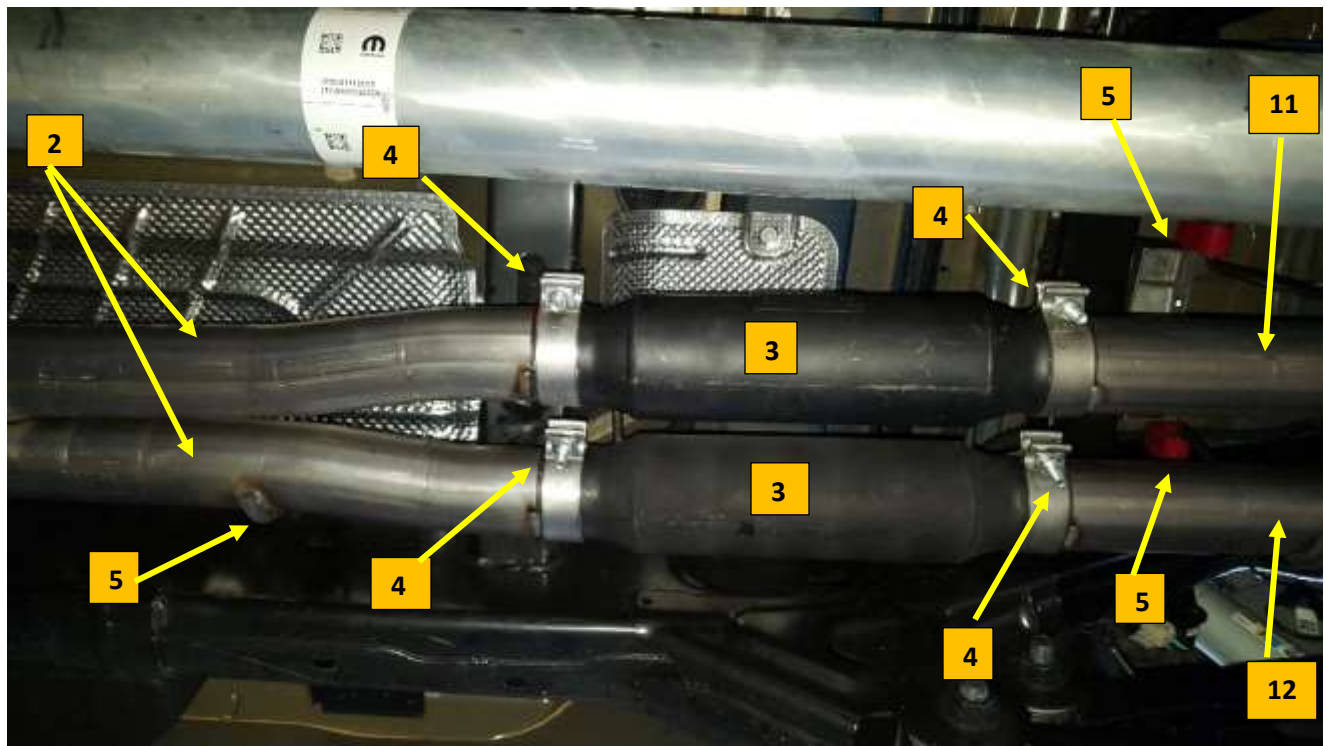

Figure 9
9. Install the red rubber isolator (5) on to the frame hanger and scavenger pipe hanger rod. **Fig. 9**
10. Install a 3" band clamp (4) on to each of the scavenger pipe outlets (2) with the bolts on the driver's side and nuts facing down. **Fig.9**
11. Install a Flowmaster Outlaw muffler with the end marked "INLET" on each of the scavenger pipes (2). Tighten the clamps to firmly hold the mufflers.
12. Install a 3" band clamp (4) on to each of the Flowmaster Outlaw mufflers outlets with the bolts on the driver's side and bolts facing down. **Fig.9**
13. Install the red rubber isolators (5) on to the frame hanger and each turn down exit pipe (11) (12) hanger rod.